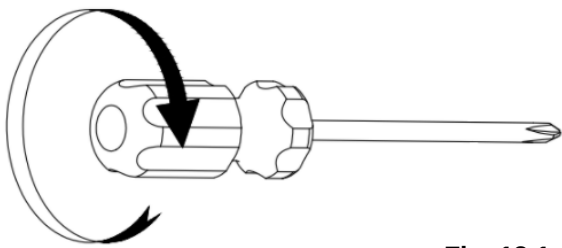

Fig. 12.1
1. Locate a suitable wall to fix the remote control holder with the 2 screws. (Fig.12.1).